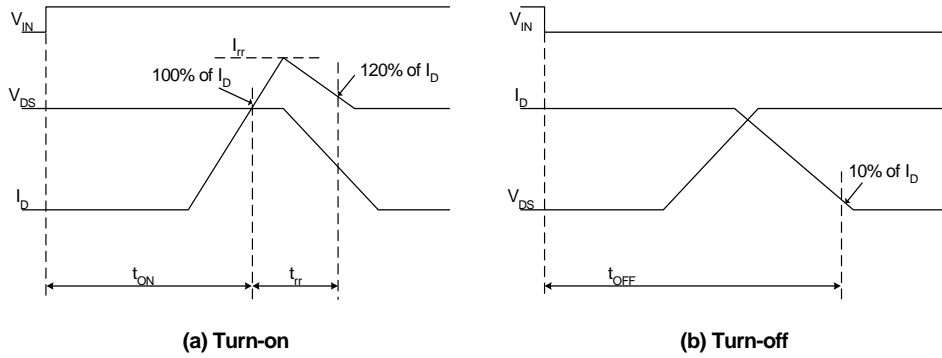
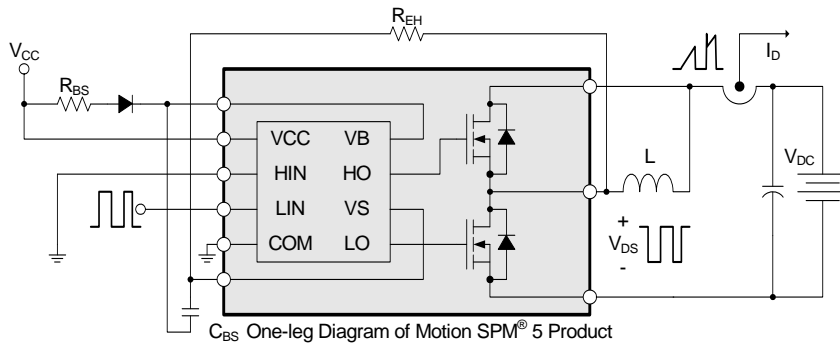

Figure 4. Switching Time Definitions
Figure 5. Switching and RBSOA (Single-pulse) Test Circuit (Low-side)
- For the measurement point of case temperature  $T_C$ , please refer to Figure 4.
- tON and tOFF include the propagation delay of the internal drive IC. Listed values are measured at the laboratory test condition, and they can be different according to the field applications due to the effect of different printed circuit boards and wirings. Please see Figure 4 for the switching time definition with the switching test circuit of Figure 5.
- The peak current and voltage of each MOSFET during the switching operation should be included in the Safe Operating Area (SOA). Please see Figure 5 for the RBSOA test circuit that is same as the switching test circuit.